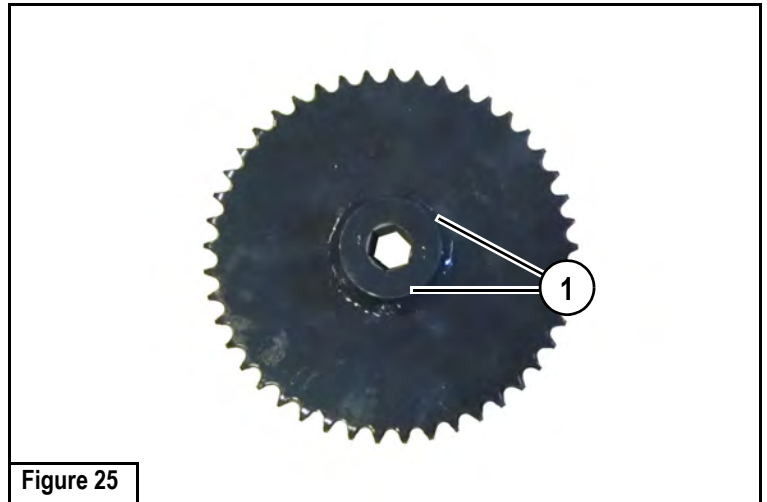

Figure 25
3. Loosen the two set screws (Item 1) and remove the broken shaft from the sprocket. **[Figure 25]**